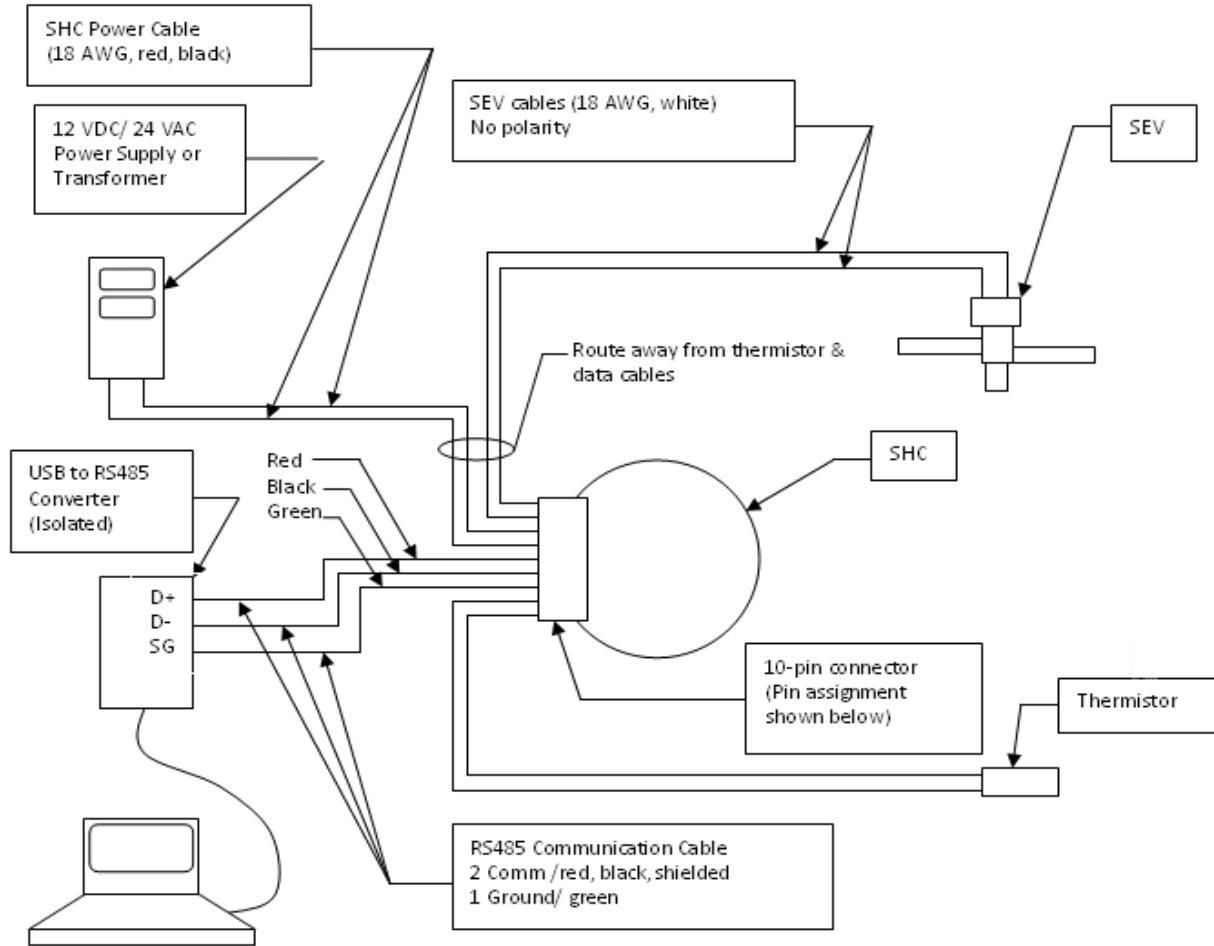

Figure 7: SHC Wiring Diagram, including AC/DC Power Supply & USB to RS422/485 Converter
1. Wire-tie the evaporator suction line and wrap with insulated tape (See Figure 7). Ensure the thermistor body is aligned parallel with the pipe.
Figure 7 assumes a single SHC.